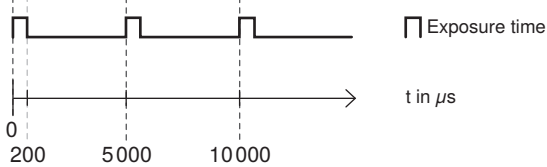

Fig. 60: Internal trigger
- » Measuring rate: 200 Hz (i. e. one measurement every 5000 μ s, see Fig. 60)